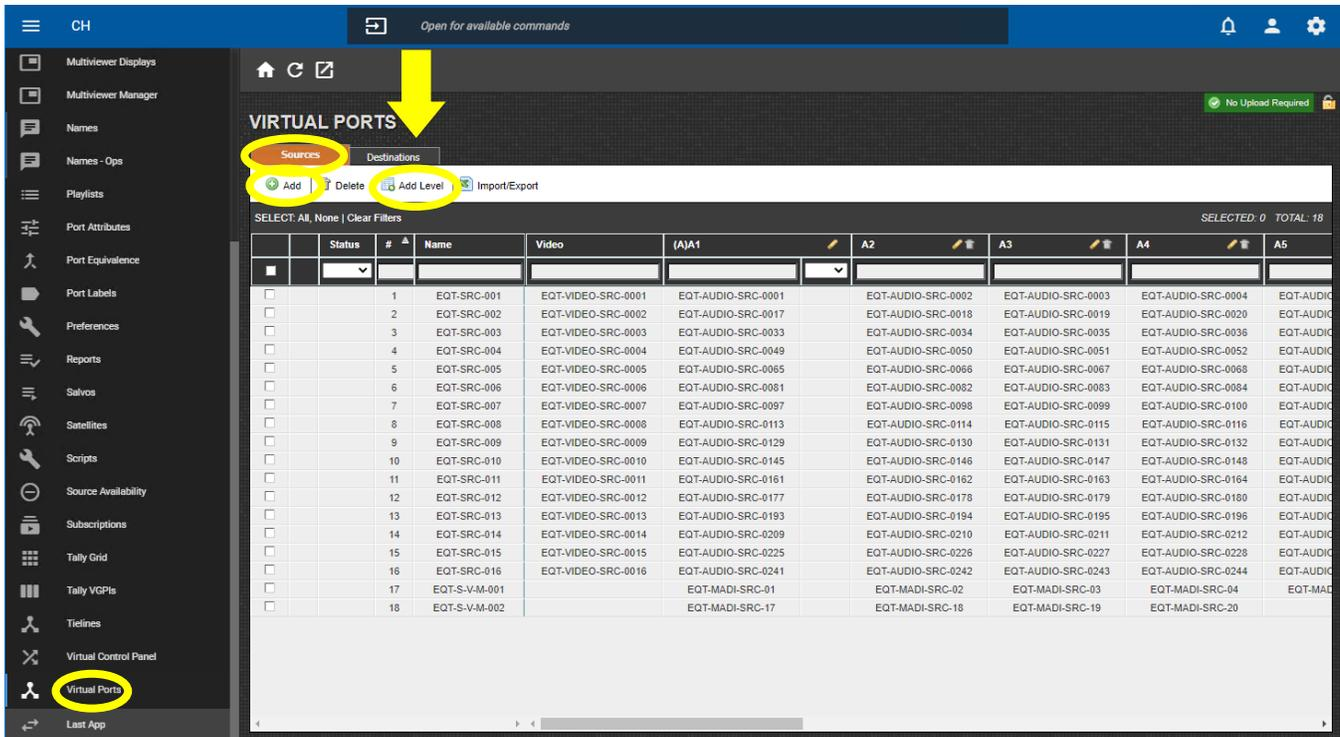
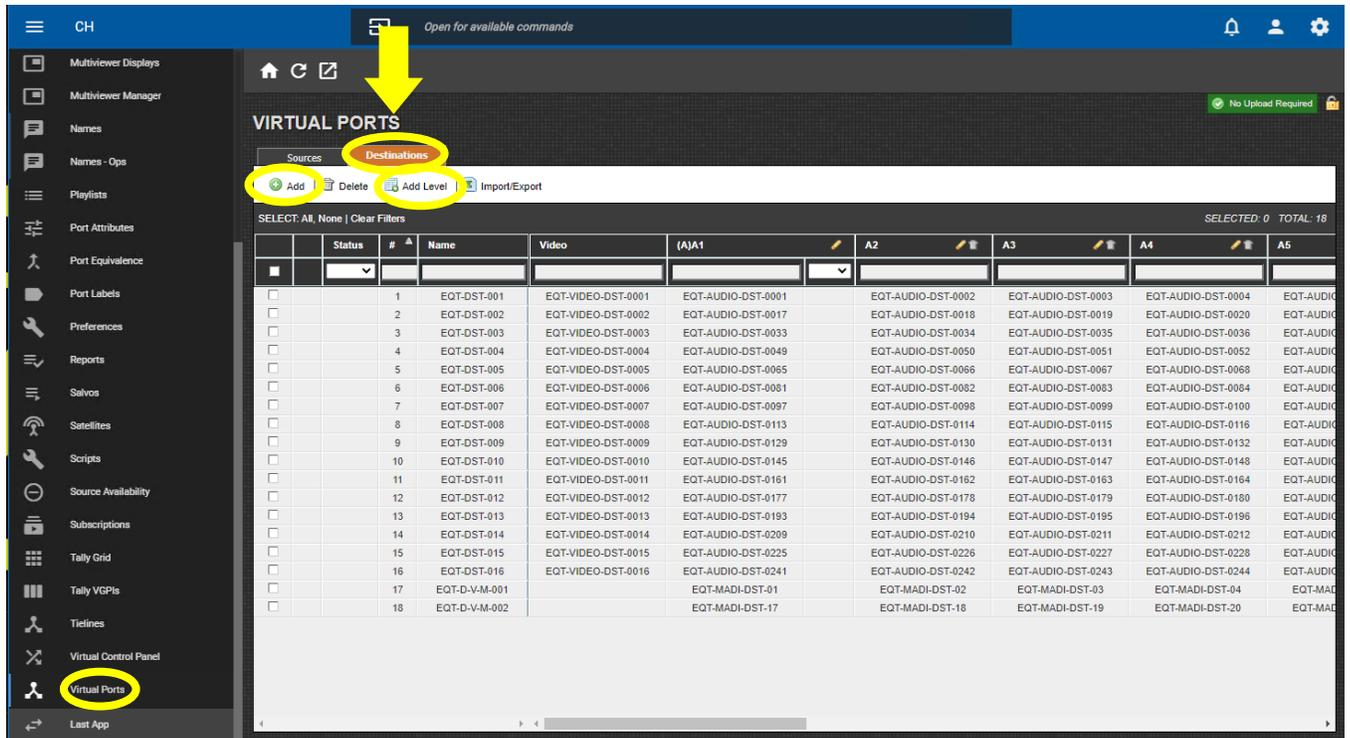

Figure 9-11 : MAGNUM- Virtual Ports Source
Figure 9-12 : MAGNUM - Virtual Ports Destinations
- Navigate to the Virtual Ports page. In the Sources section, click “Add” and enter the name of the virtual port. Repeat the process 20 times: 16 input video ports and 4 virtual MADI input ports (since MADI physical input port is only one). Click “Add Level” and include 16 levels (A1-A16), in order to reproduce the number of existing audio channels (total of 320 channels) – see Table 5-1 for details of audio channels per video. Assign a video source for each virtual input port (except MADI ports). Also, assign an audio source for each audio level (see details in Figure 9-11).
- In the Destinations section, click “Add” and enter the name of the virtual port. Repeat the process 20 times: 16 output video ports and 4 virtual MADi output ports. Click “Add Level” and include 16 levels (A1-A16), in order to reproduce the number of existing audio channels (total of 320 channels) - see Table 5-1 for details of audio channels per video. Assign a video destination for each virtual output port (except MADi ports). Also, assign an audio destination for each audio level (see details in Figure 9-12).
NOTE: In case the sources and destinations were not proper assigned as depicted in Figure 9-11 and Figure 9-12 , changing the sources in the Advanced Routes page will NOT be possible.